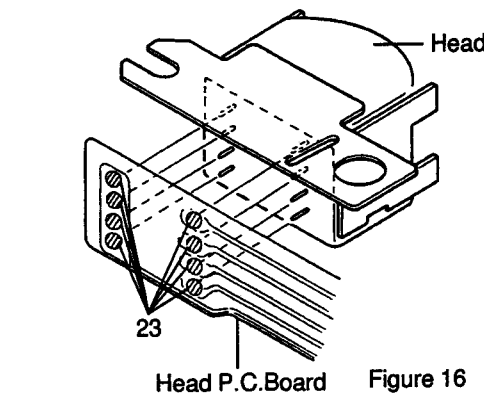

Figure 16
- (2) Remove solder 23 and remove the head from the head P.C.Board as shown in Figure 16.
- (3) After replacement, mount the new head following the removal steps in the reverse order.
- (2) 半田23を外し、ヘッド基板からヘッドを取り外します。(図16参照)
- (3) 良品のヘッドと交換後、取り外し方の逆の手順で取り付けます。